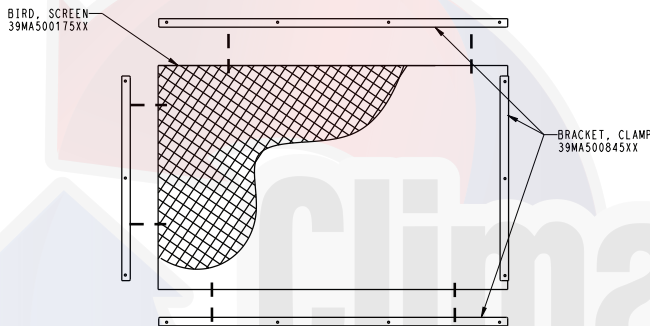

Fig. 72 — Mounting the Bird Screen
- Mount the four brackets to the bird screen. See Fig. 72.